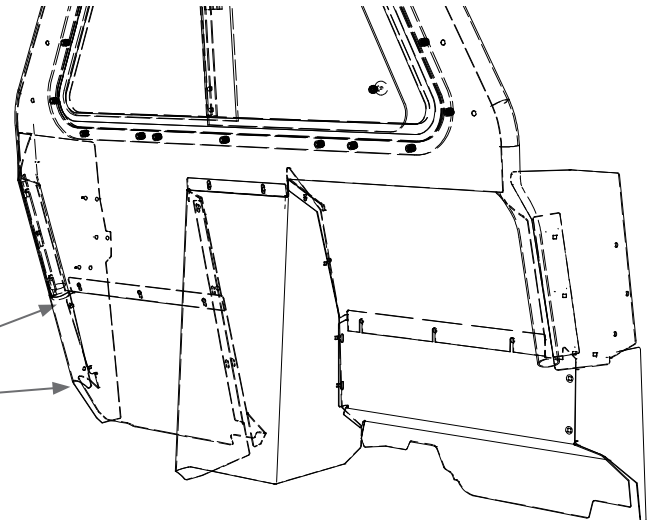

fig. 6
- A. Install the (3PK57SST15) filler panel on the passenger side lower b-pillar area. (As shown in fig. 6 and main diagram)